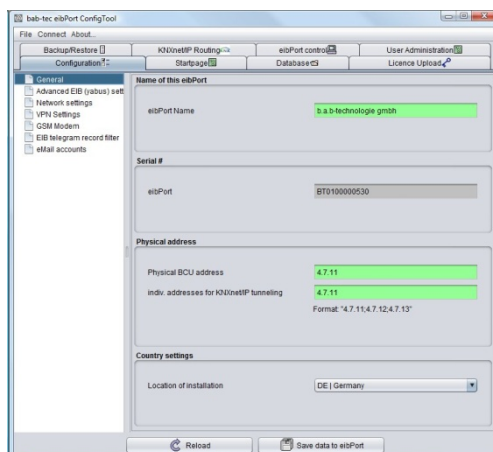

Figure 6: General window
- Click on the "General" menu item in the left array. The current settings are displayed (figure 6).